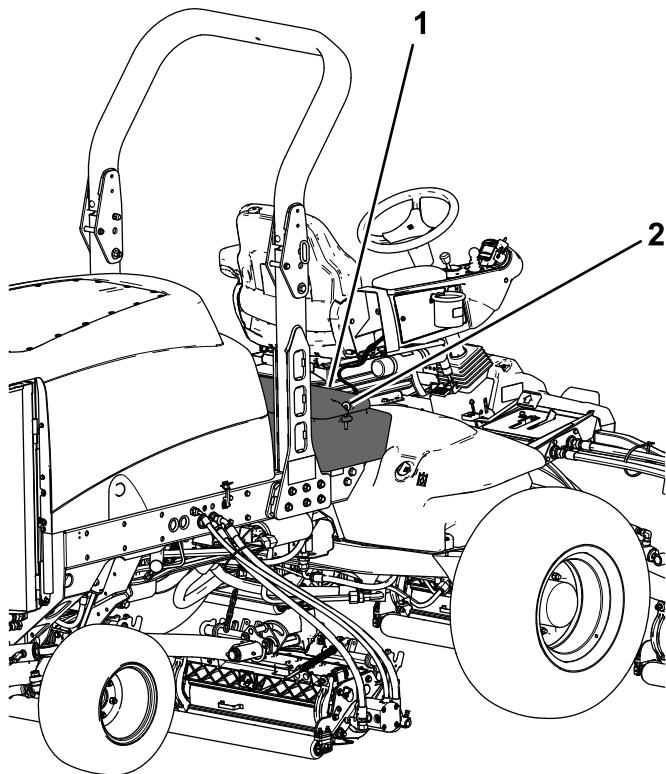

Figure 94
2. Unlatch and raise the operator's console panel (Figure 94).